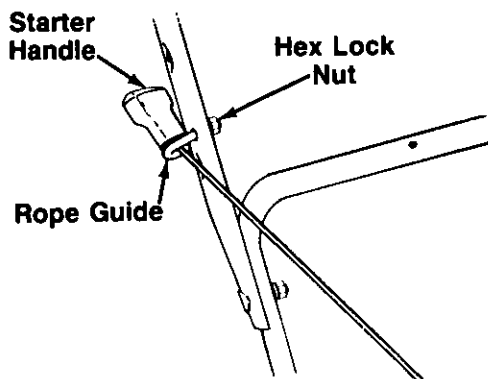

FIGURE 7.
3. Place the rope guide around the starter handle, so the rope guide bends downward as shown in figure 7. Insert the rope guide into the handle, and secure with hex lock nut.